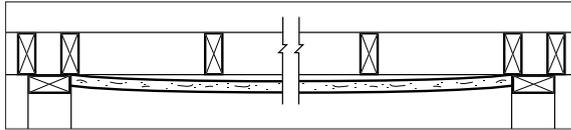

Fig. 14
**Cause:** Forcibly wedging an oversize panel into place bows the panel and builds in stresses preventing it from contacting the framing (Fig. 14, page 352). The result: following fastening, a high percentage of fasteners on the central studs probably will puncture the paper. May also cause joint deformation.